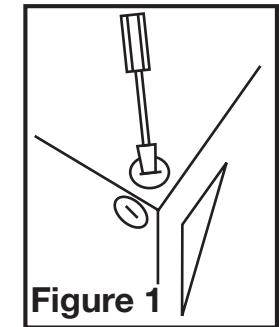

Figure 1
- Select the most convenient electrical knockout and remove using a straight-blade screw driver (**Figure 1**).